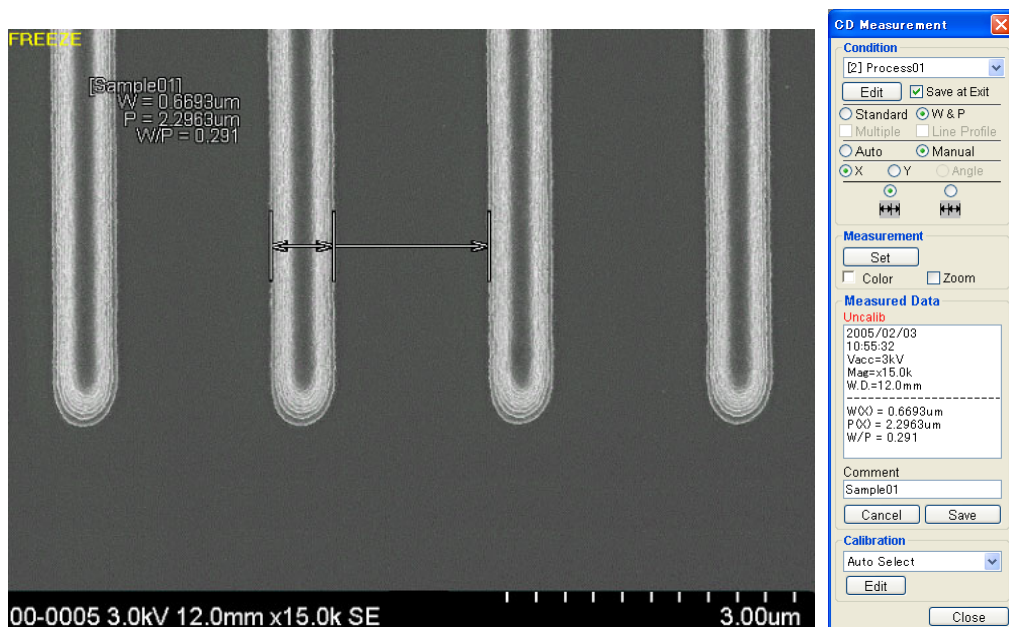

Fig. 6.4-28 Width & Pitch Manual Measurement Results Display
- (d) Align the cursor with the part to be measured as in manual measurement, click the **Enter** button and then the measured results will appear as in Fig. 6.4-28.